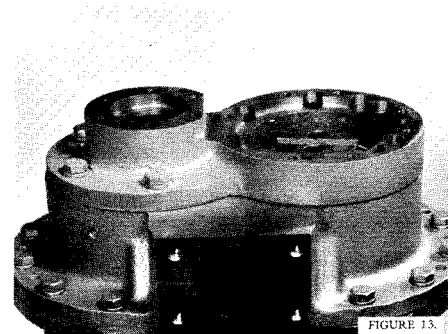

FIGURE 13.
- Oil bearings with oil to be used in unit. Make sure oil passage to bearing is not blocked by gasket. Install bearing cover plate and tighten evenly over dowel pins, Figure 13.